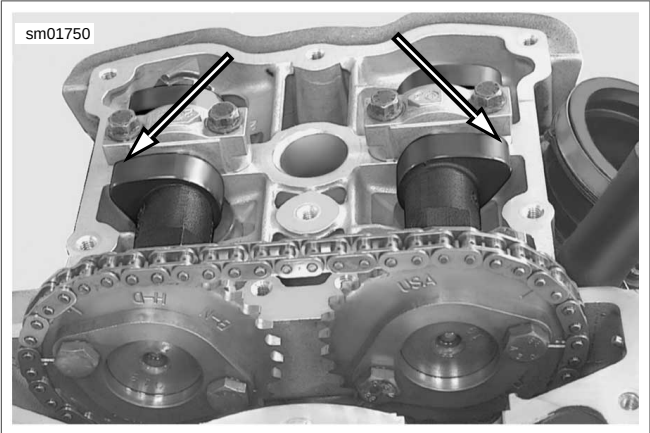

Figure 1-59. Front Cylinder 10 and 2 O'clock Cam Lobe Position
- See Figure 1-59. Use CRANKSHAFT ROTATING WRENCH (Part No. HD-45314) to rotate the crankshaft in the direction of normal operation to position front cylinder cam lobes at 10 o'clock and 2 o'clock.